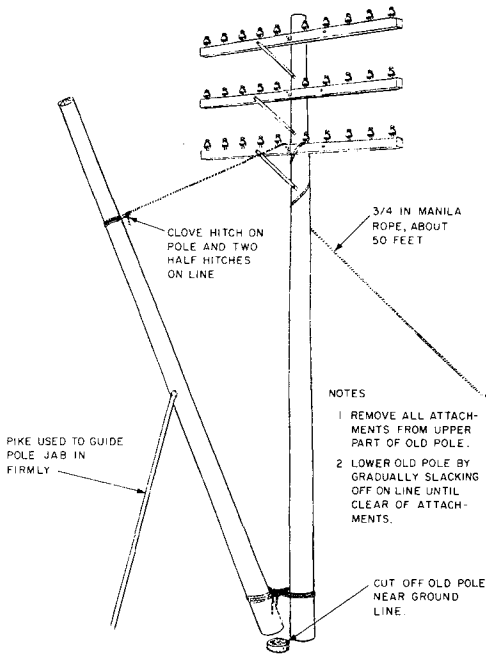

Fig. 10—Lowering Pole Butt
5.02 A pole which is 35 feet or less in length, adjacent to a pole set for replacement purposes, can be lowered as shown in Fig. 10. Care must be taken to prevent the butt from kicking out of control while pole is being lowered.